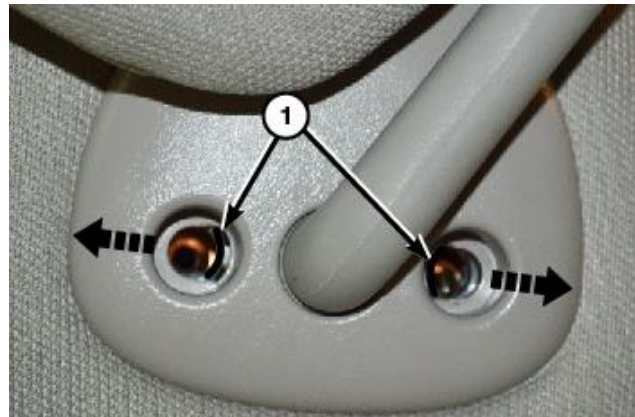

Figure 79 – Visors
Using a small flat bladed tool or equivalent, release the retaining tabs (1) and separate the visor from the headliner (Figure 79).